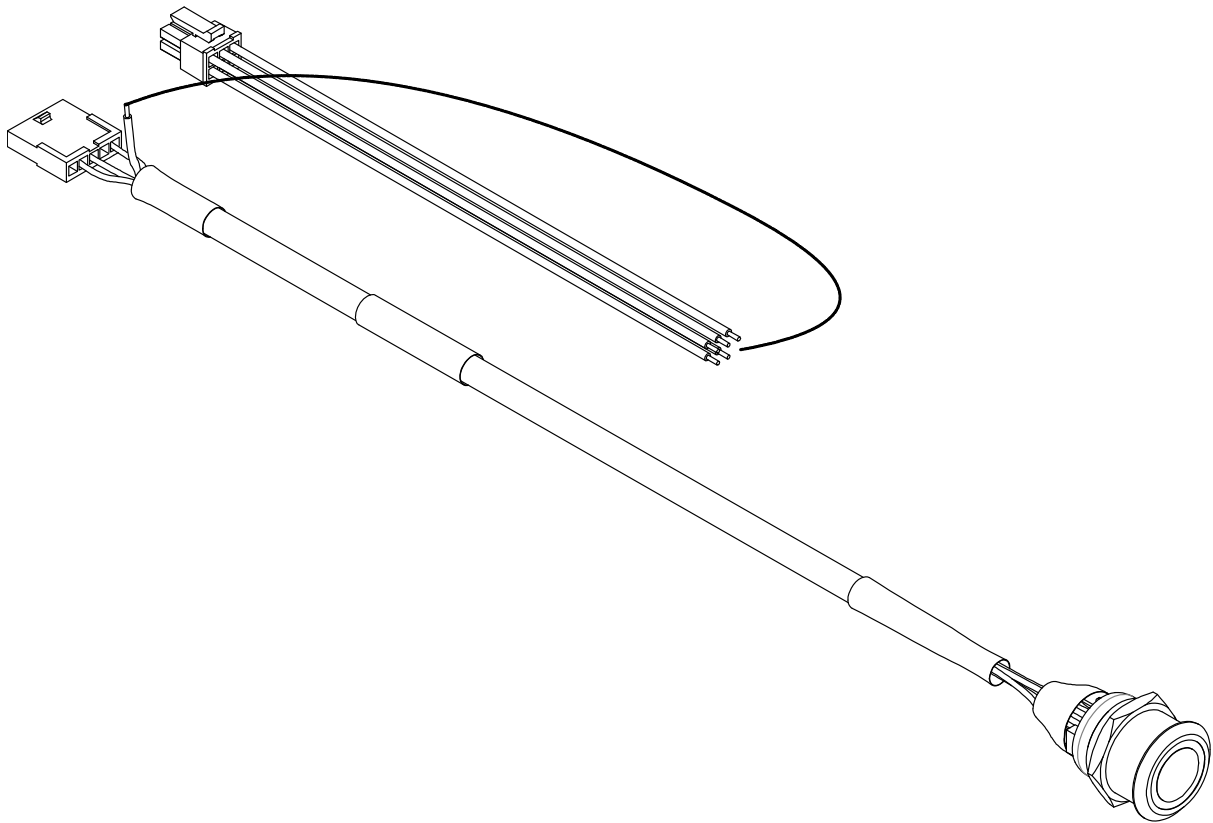

Figure 6 Wiring Alarm Button and Signal harnesses for Wake on Alarm
Important: If you are using the Diagnostic Button and cable, and require the Wake on Alarm feature, the Diagnostic Button cable must be rewired as shown in Figure 6.
- 1 On the Diagnostic Button cable, cut the green wire just before it enters the socket. See Figure 6.